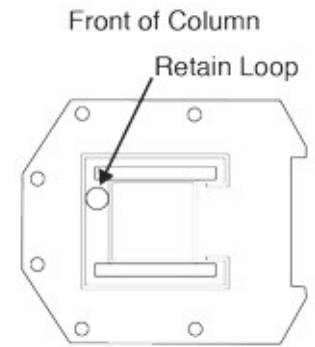

Figure 5
1. Feed the one of the long hoses down the column starting at the middle retaining loop above the carriage on the non-power pack column. Feed the hose down the Front of the column as shown in Figure 5. Ensure the cable passes on the front side of the safety stop and does not interfere with the carriage travel path. Continue to feed the hose down until the end of the hose is visible at the bottom of the column.